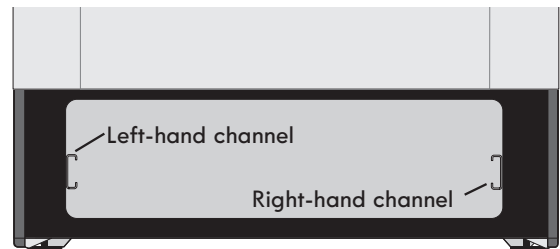

Figure 49: Warmer drawer channels
2. Carefully line up both sides of the warmer drawer glide rails to the outer compartment glide channels located inside the empty warmer drawer compartment (Figure 49).